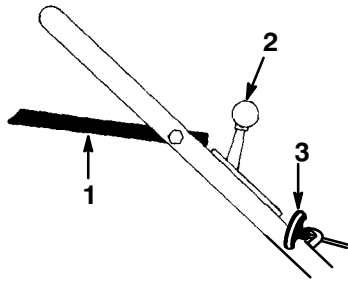

Figure 7
The blade control bail, the throttle control, and the starter handle are on the upper handle as shown in Figure 7.
3. Move the throttle control to the  (*Choke*) position (Fig. 7).
5. Lift the blade control bail to the handle and hold it (Fig. 7).
6. Pull the starter handle (Fig. 7) lightly until you feel resistance, then pull it sharply. Allow the rope to return slowly.